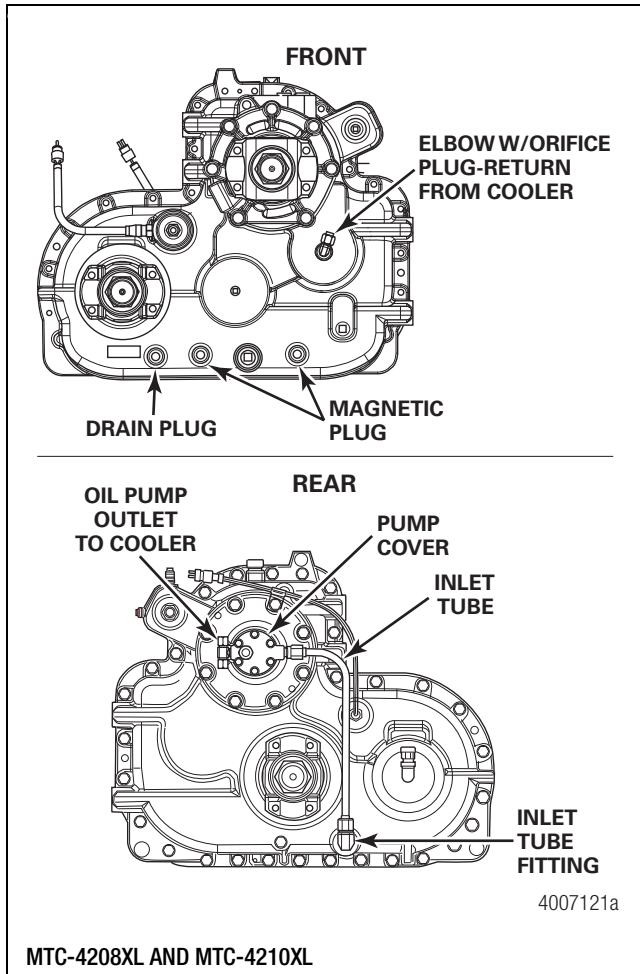
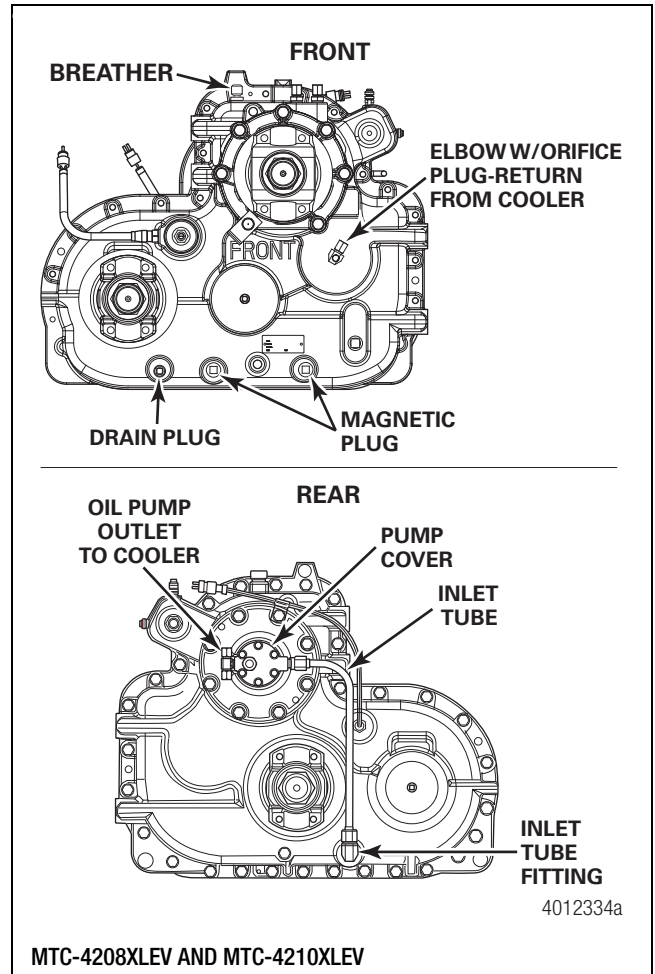

Figure 4.5
Figure 4.6
1. Disconnect the inlet oil line and original lube fittings. Figure 4.5 and Figure 4.6.